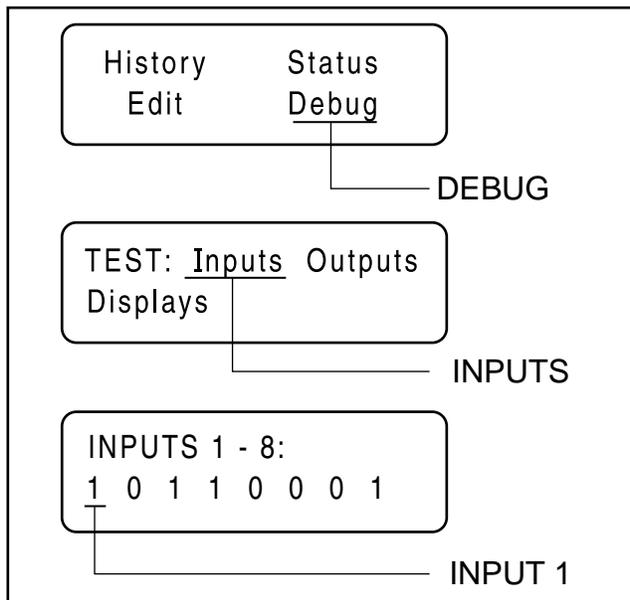

Figure 41. The Home Page, Debug and Input Screens
- f. Digital Input 1 is Wire 86 from the Low Oil Pressure switch to the board. Refer to Figure 41.